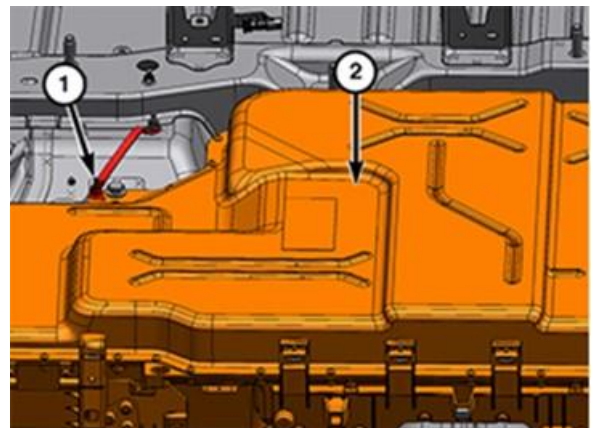

Figure 29 – HV Battery Fastener and Ground Cable
53. Remove the fastener (1) and the chassis ground cable from the HV battery (2) (Figure 29).
66. Install the chassis ground cable to the HV battery ground stud (1) and tighten to 9N·m (80 in. lbs.) (Figure 29).